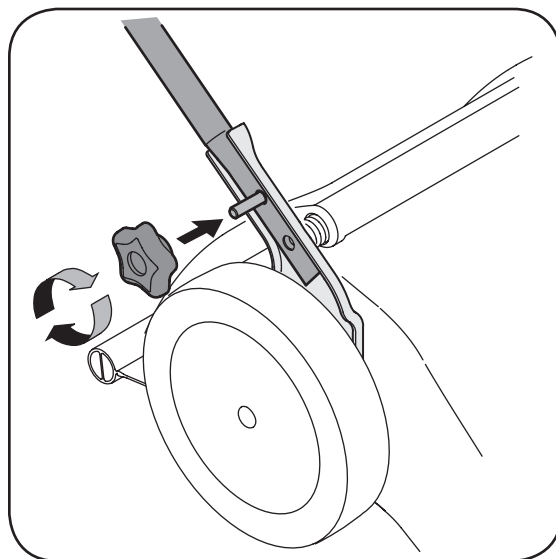

Figure 3-2
2. Tighten star knobs securing lower handle to handle brackets. See Figure 3-2. Make sure that each carriage bolt is seated properly in the handle.